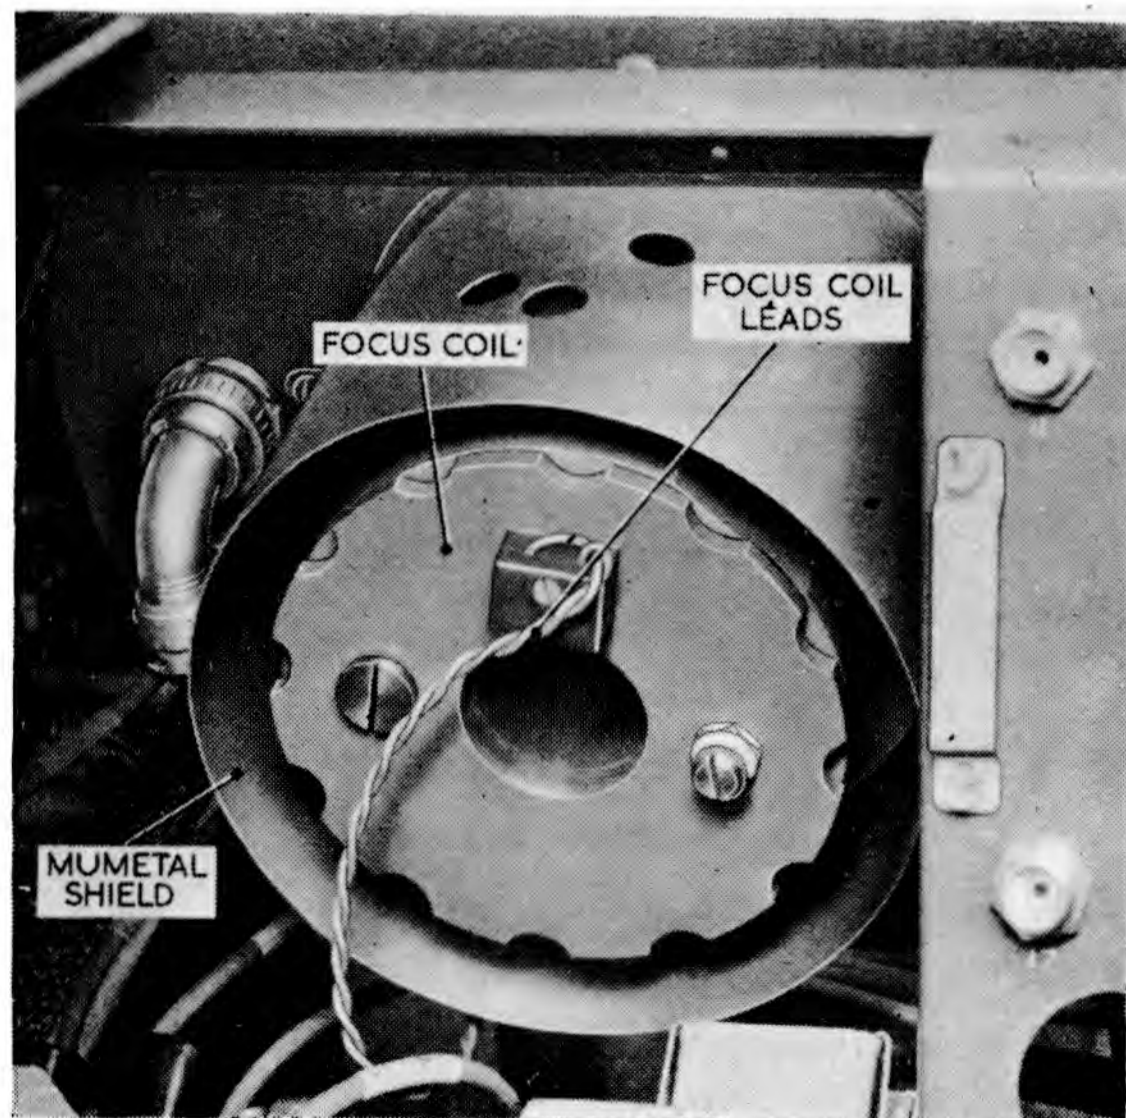
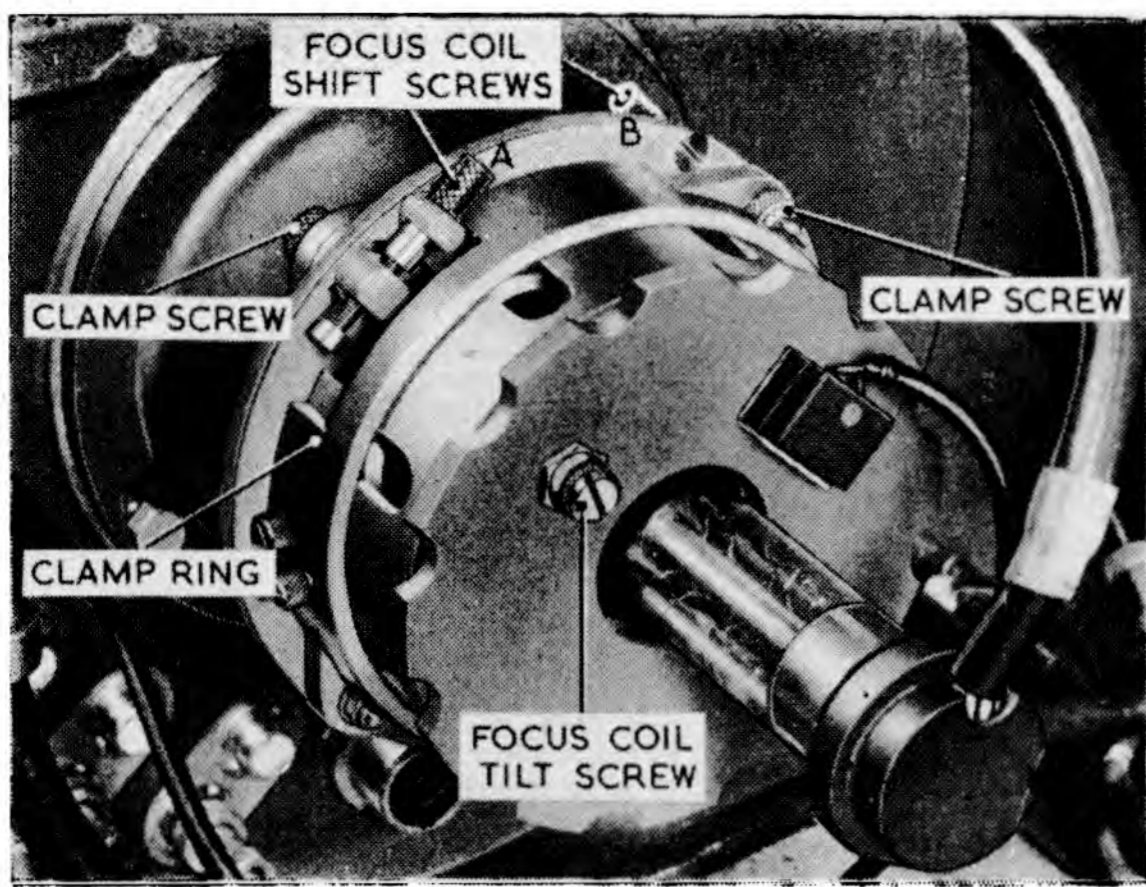

Fig. 5. Coil assembly, shield on
Fig. 6. Coil assembly, shield off
14. The focus and deflector coils are mounted in a cylindrical assembly attached to the rear of the tube housing by three bolts. A thin cylindrical mumetal shield protects the coil assembly and CRT neck from external magnetic fields. *Fig. 5* shows the assembly with the coil shield in position and the CRT removed. *Fig. 6* shows the assembly with the shield taken off and the CRT put back.
by the amount of slack on the focus-coil leads (fig. 6). When a satisfactory position has been found, the rear part may be secured there by tightening down the screws on the clamp ring.
18. To allow rotation of the focus coil about an axis at right-angles to the beam axis, the focus coil is pivoted inside the rear part of the housing on two pointed grub screws located at opposite ends of a diameter. Tilt of the coil about the axis of these grub screws is limited at one side by a spring on which the coil case bears; the large flat-headed retaining screw for this spring may be seen on the left of the tube aperture in fig. 5. The coil is held up against the spring by the focus-coil tilt screw, marked on fig. 6. Turning this tilt screw alters the tilt angle of the coil; when the correct position has been reached the tilt screw is secured by its lock nut.
19. To provide for shift of the focus coil in two perpendicular directions, the whole focus-coil housing may be moved over a small arc about each of two centres of rotation, which are spaced 90 deg. apart around the flanges joining the focus-coil housing to the deflector-coil housing. The focus-coil shift screws, which effect these movements, are marked **A** and **B** on fig. 6. When the correct position has been found, further movements are prevented by tightening the associated clamp screws. (The drill for setting up all these items will be issued in Part 2.)
20. The normal focus current is about 38 mA, and a good deal of heat is developed in the coil. To dissipate this heat, ventilation holes are provided on both parts of the focus-coil housing. The two focus-coil ends are brought out through the housing to the small terminal strip seen in fig. 5; from there the flexible leads run down to PL2 on the tube housing.